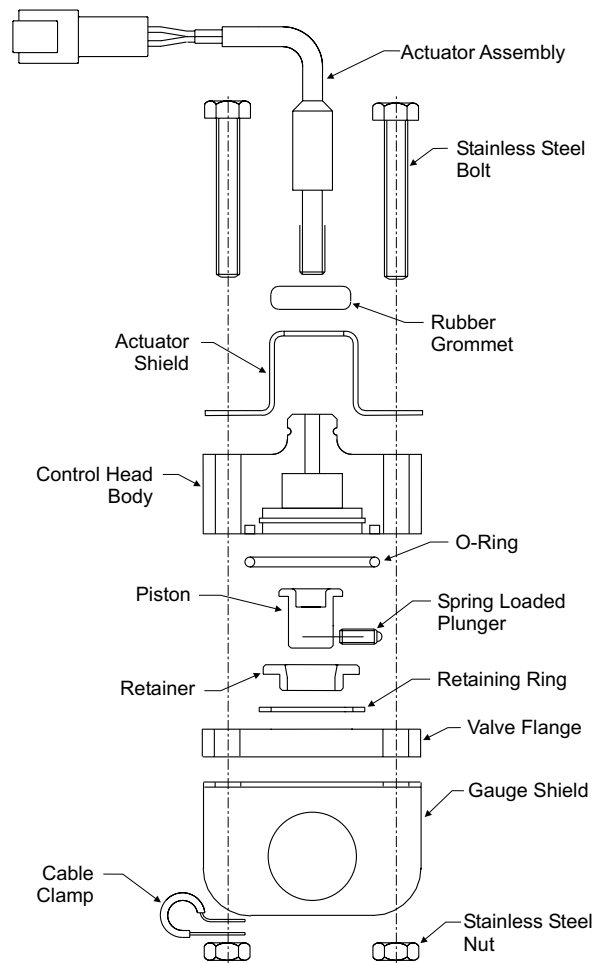

FIGURE 38 - CONTROL HEAD (EXPLODED VIEW)
9. Rebuild the electrically operated control head (figure 38):